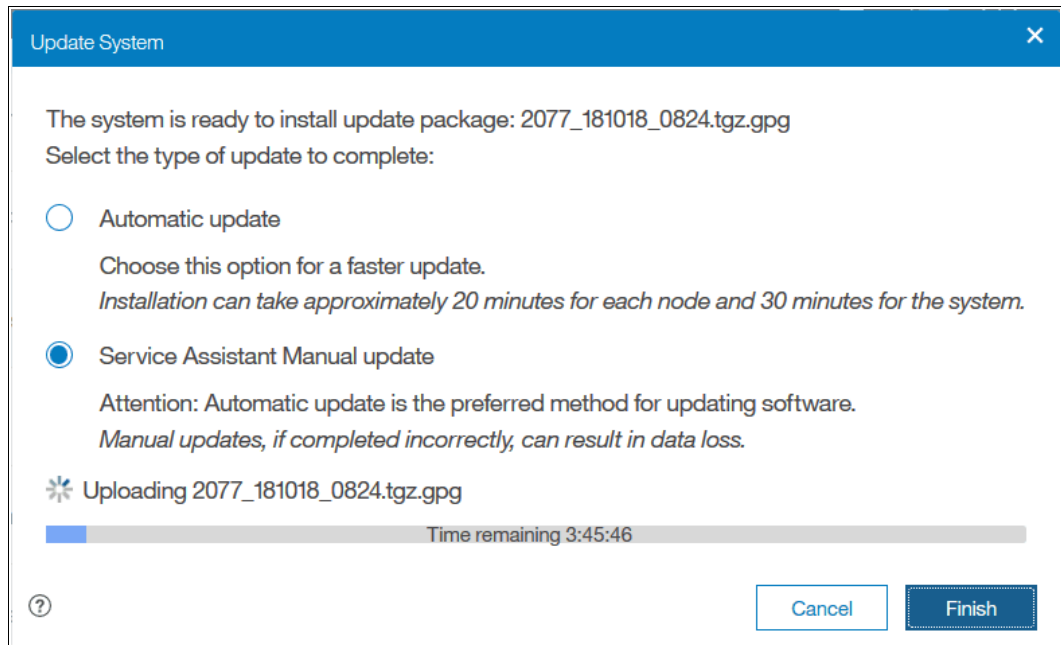

Figure 12-49 File upload
4. Wait for the test utility and update package to upload to the system, as shown in Figure 12-49.